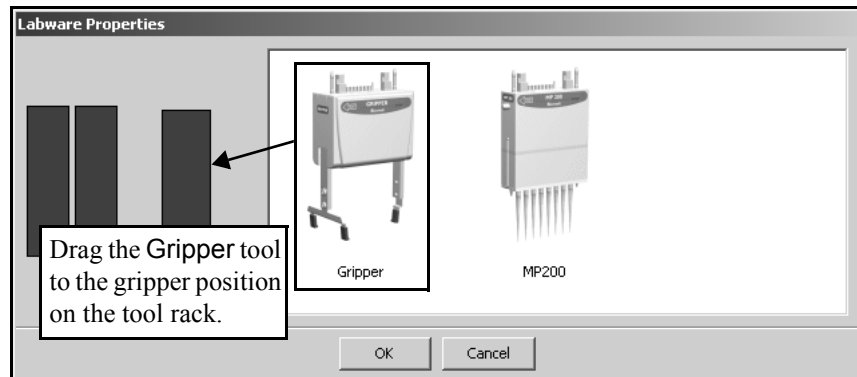

Figure 2-4. Labware Properties for tool rack
- From the Deck Layout Display, double-click the tool rack to display Labware Properties (Figure 2-4).